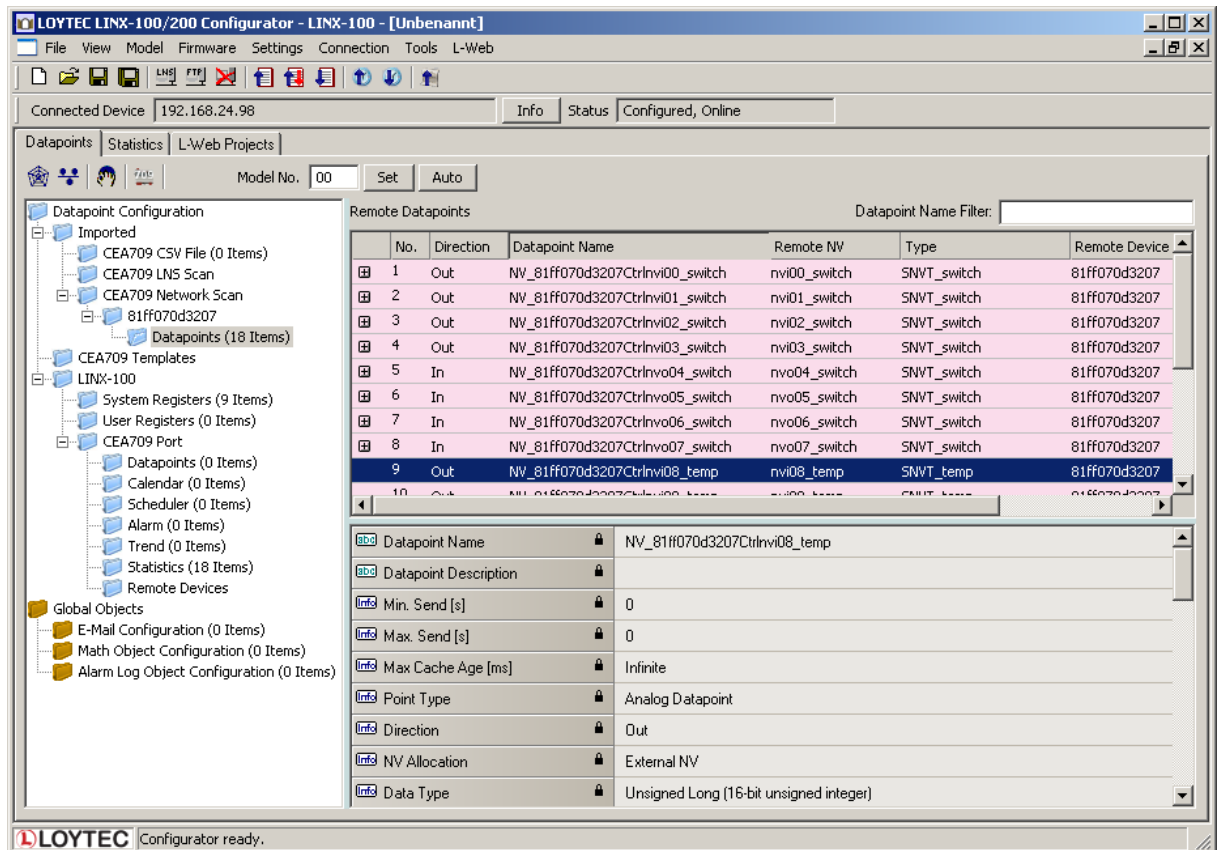

Figure 106: CEA-709 network scan results.
7. Select a device in the device list and click the button **Scan Device**. This scans the NVs on the selected device and adds them to the CEA709/852 Network Scan folder as a separate sub-folder for the device as shown in Figure 106.